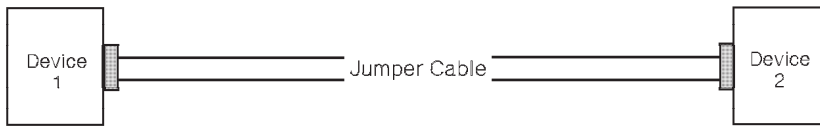

Figure 2-1. Link Configuration 1 Consisting of 1 Jumper Cable between 2 Devices
- One jumper cable between 2 devices (Figure 2-1)